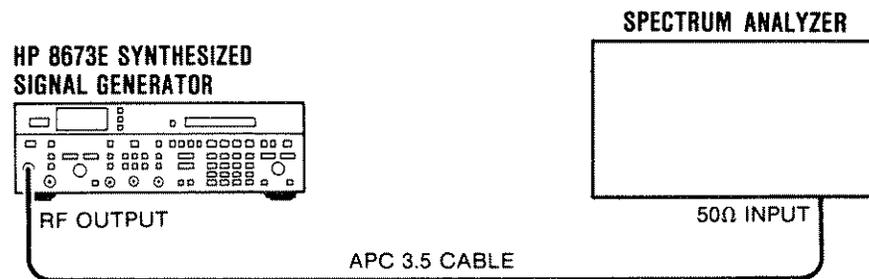

Figure 4-5. Non-Harmonically Related Spurious (CW and AM Modes) Test Setup
1. Connect the Signal Generator RF OUTPUT to the input of the spectrum analyzer as shown in Figure 4-5.